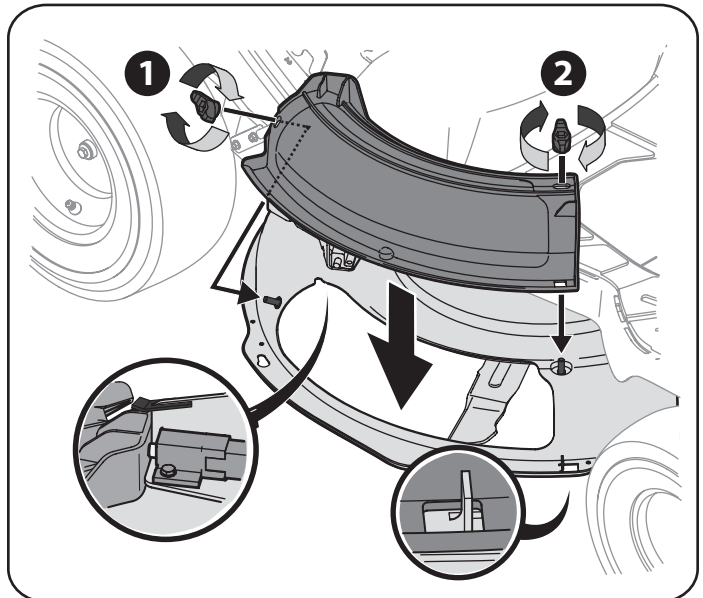

Figure 11
1. Remove the wing knobs installed on the mowing deck and retain for later installation. See Figure 11.
2. Install the mulch plug into the deck discharge opening on the deck. The rear of the mulch plug should be under the tab on the rear deck bracket. The studs on the deck surface will fit through the holes on the upper portion of the mulch plug. The small tab on the deck lip area will fit through the square cutout on the lower portion of the mulch plug. See Figure 11.
2. Remove the plastic cover, if present, from the positive battery terminal and attach the red cable to the positive battery terminal (+) with one of the hex bolt and hex nuts, using a 7/16 inch wrench and socket wrench. See Figure 11.